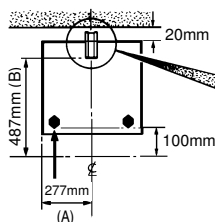
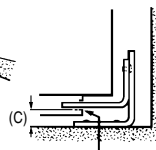

Fig.3a.
Fig.3b.
2. Mark off 277mm from the left hand side of the appliance as shown in dimension 'A', Fig 3a. This is the centre line of the fixing bracket.
3. Draw a line 100mm from the front edge of the feet (see Fig.3a) and remove appliance from its position. Mark off dimension 'B' (see Fig.3a) back from this line on the centre line of the bracket to locate the front edge of the lower bracket. Fix lower bracket (with two fixing holes) to the floor then measure the height from floor level to engagement edge on back of appliance, dimension 'C' of Fig. 3b.
4. Assemble upper bracket to lower bracket so that the underside of bracket is dimension 'C' + 3mm above floor level. (See Fig. 3b)
Reposition appliance and check that top bracket engages into appliance back as shown in Fig. 3b.